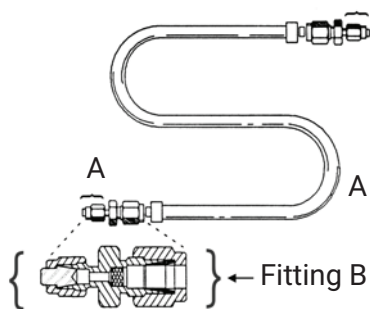

Figure 1. Conditioning the trap.
To condition the trap (Figure 1), remove the caps (A) on both ends. Attach one end of the trap to a gas supply with suitable tubing. If the trap has been used, attach the gas supply to the downstream end to reverse the flow direction through the trap.